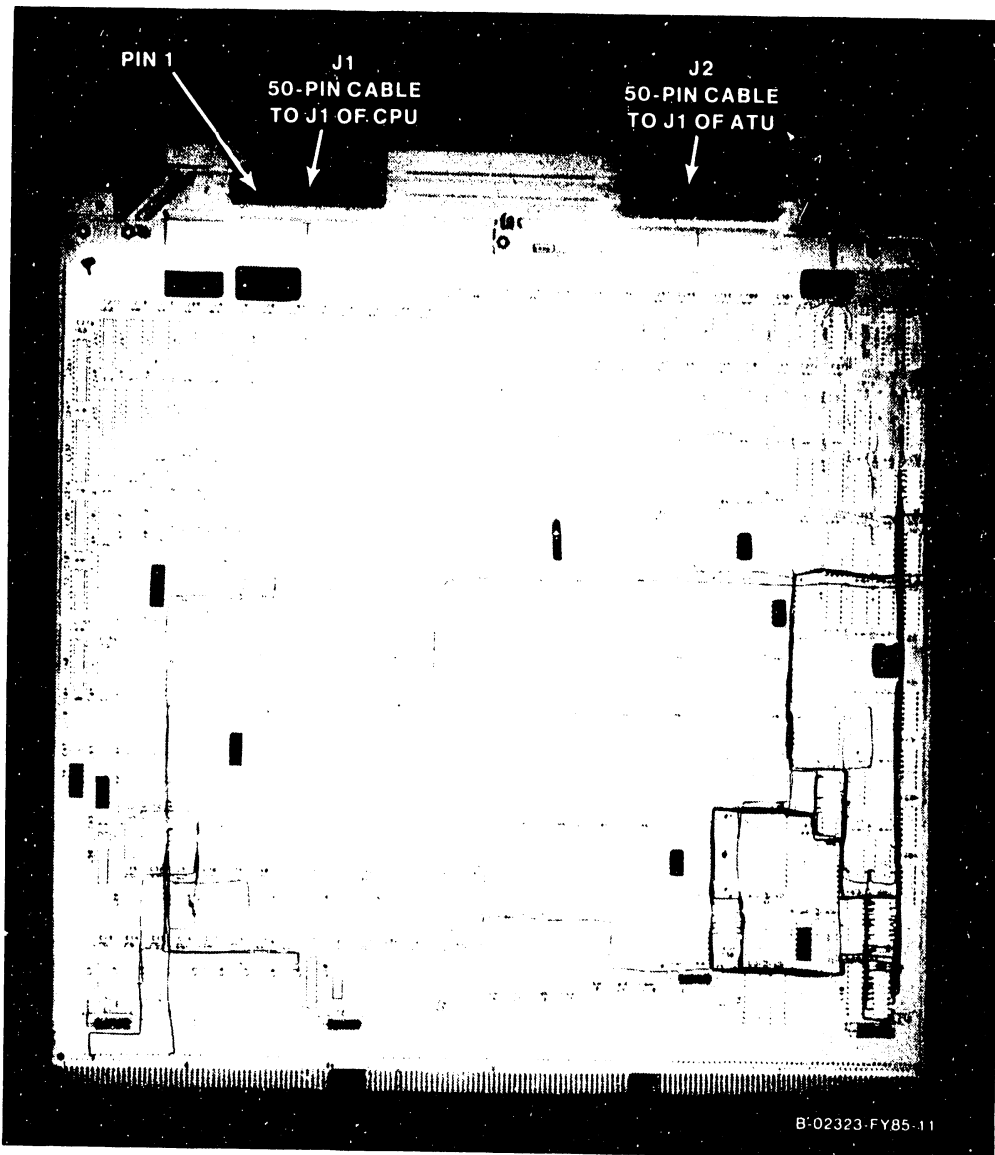

Figure 5-16. 210-8832 Address Generation Unit
1. Before removing the Address Generation Unit (AGU), figure 5-16, from backplane slot #3 disconnect the 50-pin cables from J1 and J2.